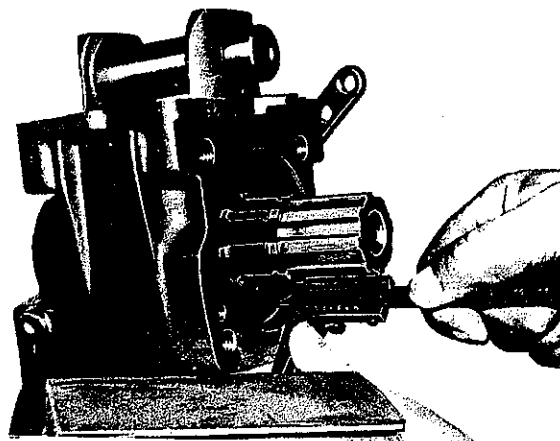

Fig. 62
2.3 Apply depth gauge to measure from sealing surface of cover (25) on housing to stop flange of ball bearing (22) (Fig. 62).